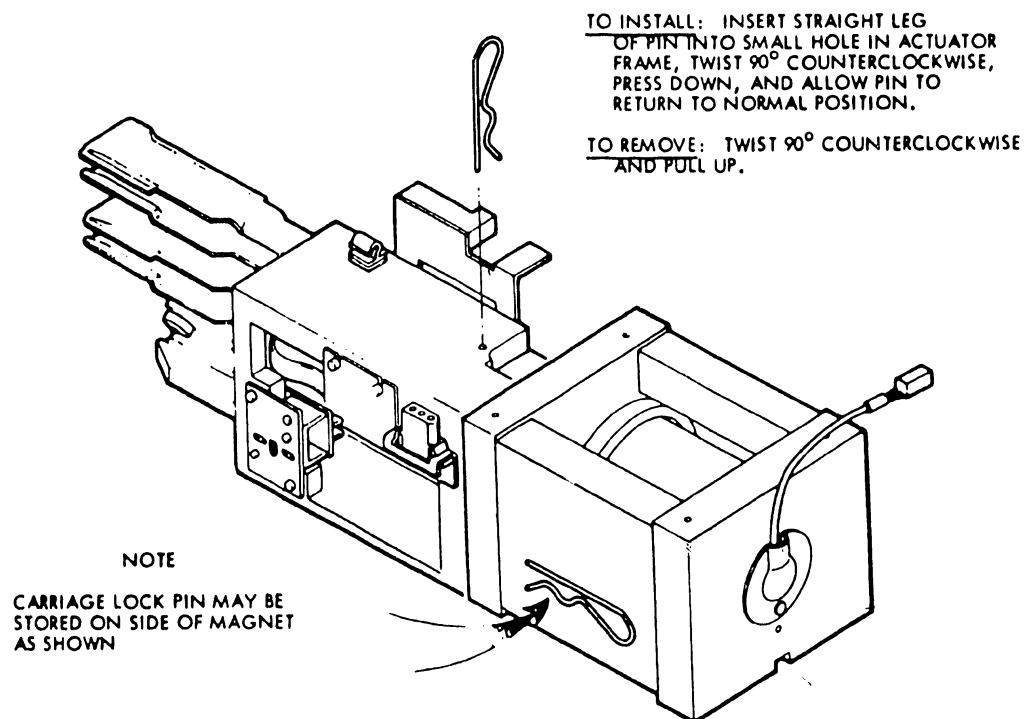

FIGURE 2-2 CARRIAGE LOCK PIN - (Removal & Storage)
- B) Remove carriage lock pin (Ref. Figure 2-2) and store on side of magnet as shown.